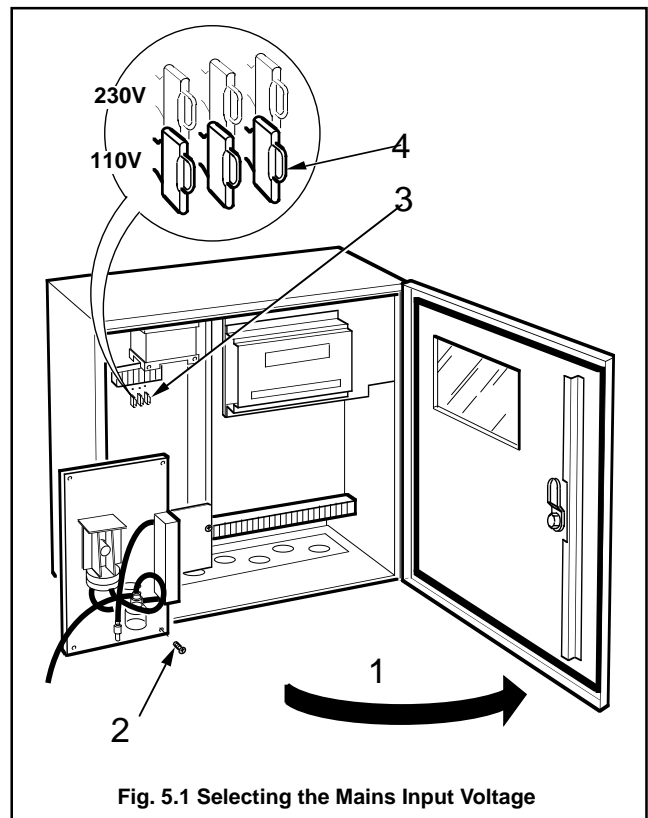

Fig. 5.1 Selecting the Mains Input Voltage
5.1 Setting the Mains Input Voltage – Fig. 5.1
With reference to Fig. 5.1: